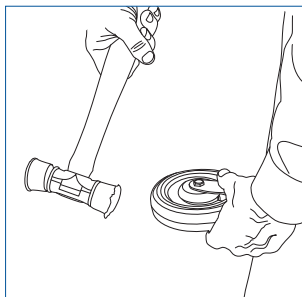

Fig. 1
1. Install the caster into the caster insert with a rubber mallet (Fig. 1)